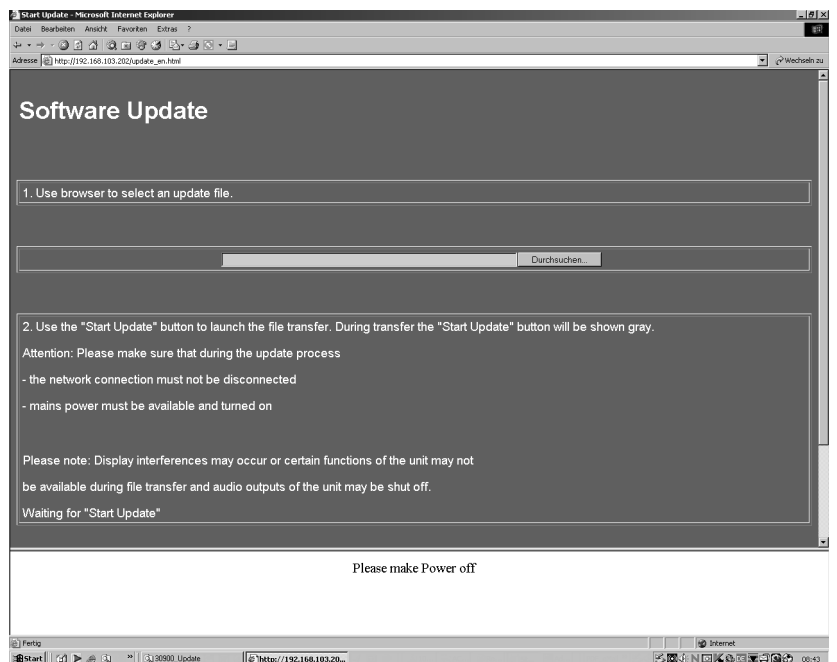

Fig. 5-16: End of the data transfer of the selected file
8. The download is finished when the message "Please make power off" is displayed (see Fig. 5-16). Please do **not** switch off the SurroundControl 30900(-24) but proceed with step 9.
9. Use the displayed dialog (see Figs. 5-16 and 5-11) to select („Durchsuchen“) the **second** of the four update files.
10. Use the displayed dialog (see Figs. 5-16 and 5-11) again to select („Durchsuchen“) the **third** of the four update files.